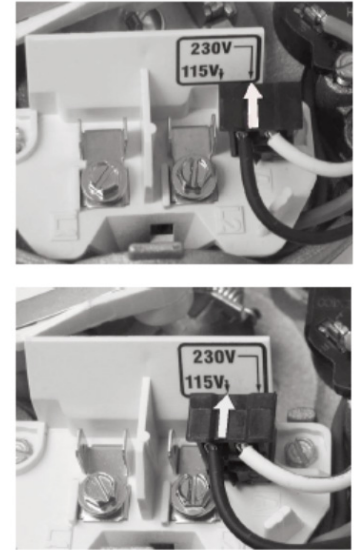

Figure 8. Dual-Voltage Selector
2. Remove the booster pump motor end cover to expose the pumps dual-voltage selector, Figure 8.